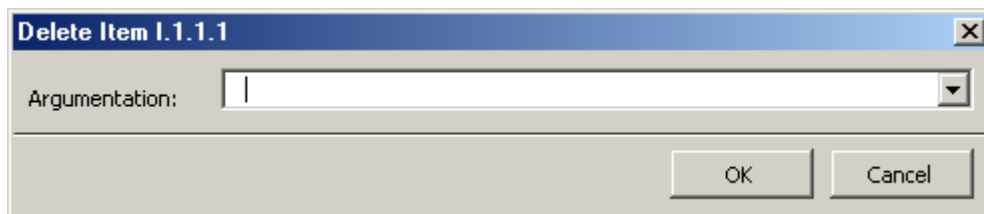

Figure 10. Dialog box for inserting your argument for deleting an item; it is necessary to have an argument for deleting
- On the Argumentation box, give an argument explaining why the item needs to be deleted, and then click “OK” (see Figure 10).